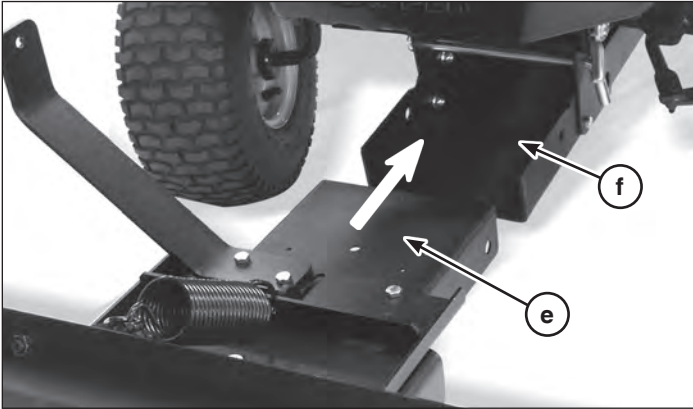

Figure 13
11. Slide hitch pivot assembly (**e**, Figure 13) onto sub frame (**f**). Align holes on hitch pivot assembly and sub frame.